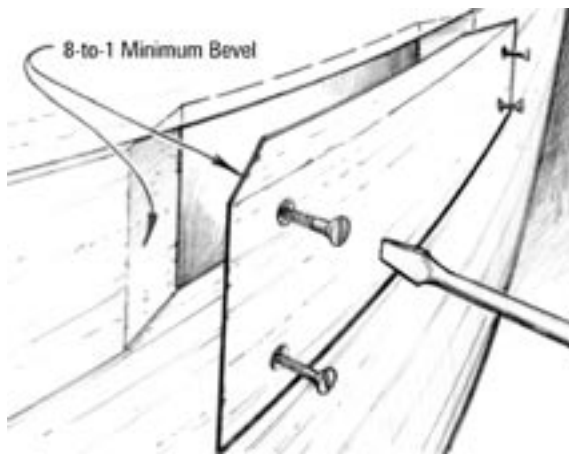

Figure 6-6 Replace a section of plank using scarf joints.
3. Cut a piece of wood to fit the opening. Match the 8-to-1 bevel on each end (*Figure 6-6*). Make the new piece of wood slightly thicker than the original planking. Excess material inside or outside the hull can be planed off after the glue has cured.